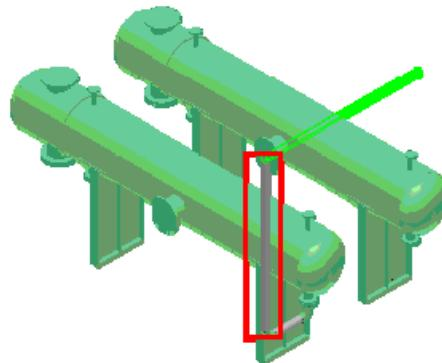

Figure 32: Routed Pipe in the Vertical Direction
34. Now, on the **Route Pipe** ribbon, key in **9 ft** in the **Length** drop-down list and use SmartSketch to locate the **U** glyph. Click in the graphic view to place the pipe, as shown in Figure 32.